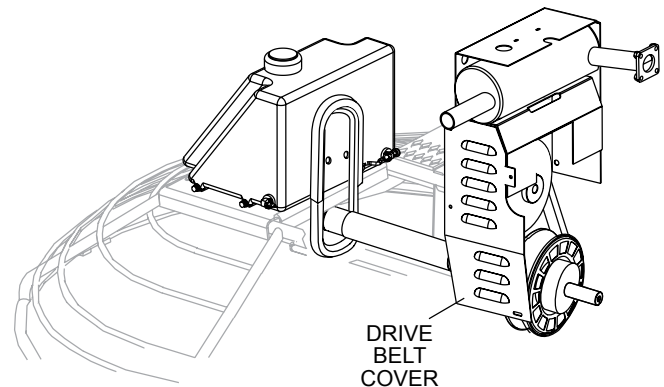

Figure 16. Drive Belt Cover
1. Remove Drive Belt Guard Cover. See Figure 16.
1. Remove Drive Belt Cover. See Figure 16.